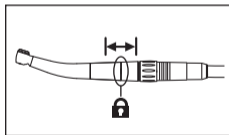

Fig. 3
- 2 Make sure the handpiece is fully seated in the coupling (Fig. 3).